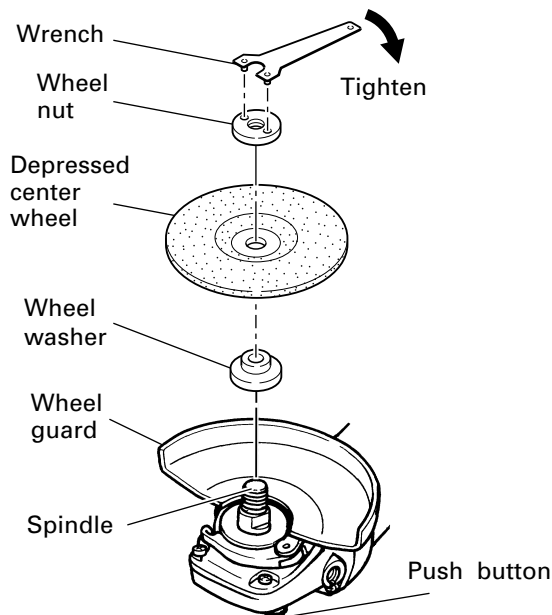

Fig. 6
- (1) Turn the disc grinder upsidedown so that the spindle is facing upward.
- (2) Align the oval-shaped indentation of the wheel washer with the notched part of the spindle, then attach them.
- (3) Fit the protuberance of the depressed center wheel onto the wheel washer.
- (4) Screw the wheel nut onto the spindle.
- (5) While pushing the push button with one hand, lock the spindle by turning the depressed center wheel slowly with the other hand. Tighten the wheel nut by using the supplied wrench as shown in Fig. 6.